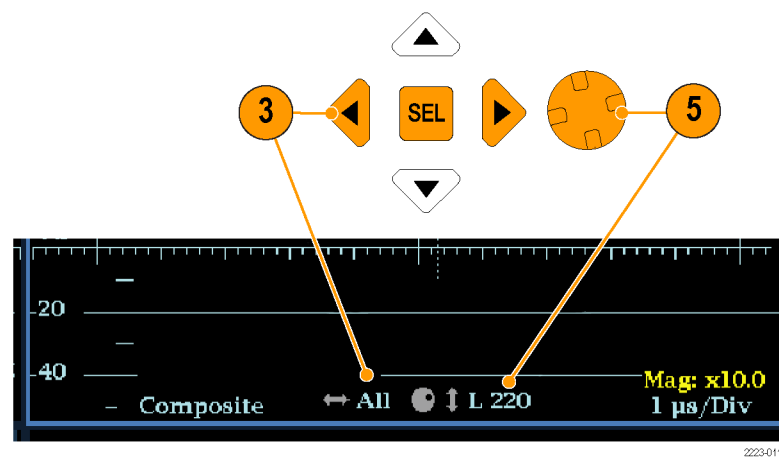

Figure 43: Navigating line selection
3. Press the left or right arrow key to select **F1** (field 1), **F2** (field 2), or **All**. (See Figure 43.)